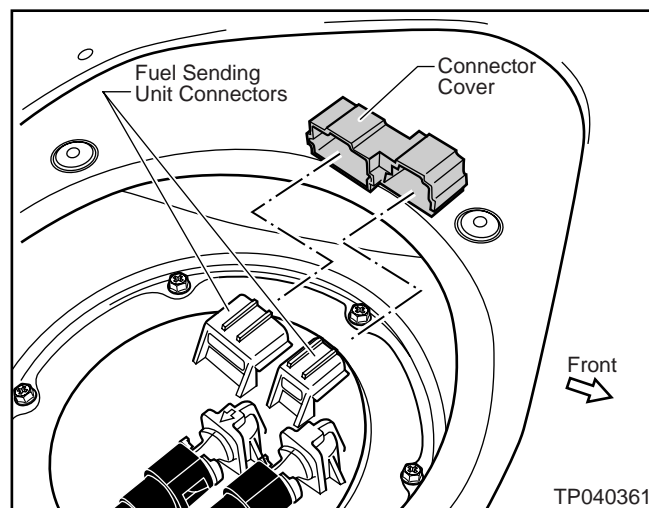

Figure 22
11. Install the Connector Cover onto the Fuel Sending Unit Connectors until it is fully seated. See Figure 22.